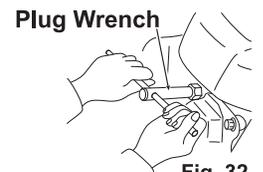
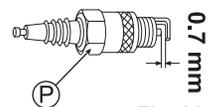

Fig. 32
Fig. 33
2. Remove the spark plug (P) with the attached plug wrench. (See Fig. 32)
3. Exchange the spark plug (P) if a great amount of carbon is adhered to it or its insulator is cracked or damaged.
4. Remove the carbon adhered to the electrode, and adjust the electrode clearance to 0.7 mm. (See Fig. 33)
5. Install the spark plug (P) and the spark plug cap (Q).